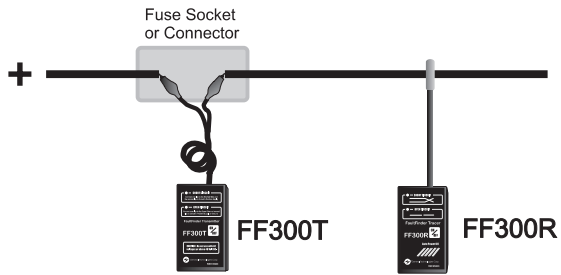
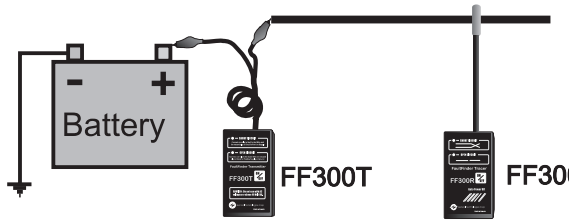

Fig.2 - Set up for tracing short or open circuits, or location of wiring
Fig.3 - Set up for tracing short and open circuits, or tracing wiring
- 6.2 Connect the FF300T (transmitter) in series with the short-circuited wire, making sure one of the unit's clips is connected to the circuit's positive supply (or vice versa for vehicles with positive supply connected to chassis). A fuse socket (in place of the blown fuse), connector, etc. provides a convenient place as shown in Fig.2 and Fig.3 in page 7.
- Tracing wires downstream (from supply to load): replacing the load for a full short circuit allows the FF300 to work at its maximum capabilities. Before proceeding remove all electrical power from the circuit, connect the FF300T in series with the wire to trace, short circuit the load to ground (refer to Hook Up Reference Chart Fig.2 and 3), then reconnect power and follow instructions in section 6 – Locating Short Circuits.
- The type and size of the leak in the circuit (impedance or resistance to ground) determines the amount of current flowing in the circuit. Small leaks (i.e. low current) will reduce the range of the tracer accordingly. In all cases the FF300R's probe should be positioned as close as possible to the wires, in order to maximize the signal captured by the tracer, and set to a higher sensitivity level. For hook up refer to the Hook Up Reference Chart Fig. 2 and 3 in Page 6.
- 9.2 Connect the FF300T (transmitter) in series with the open ended wire, making sure one of the unit's clips is connected to the circuit's positive supply or ground. A fuse socket (with the fuse removed), connector, etc. provides a convenient place as shown in Fig. 2, 3, 4 and 5 of the Hook Up Reference Chart.